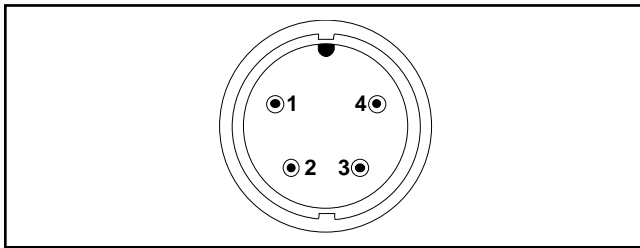

Figure 10. RF Detector Cable Connector Pin Layout
6. Connect the DMM leads between pins 1 and 2 of the RF detector cable connector (Figure 10). Measure the resistance value, which is the maximum resistance of R1 (approximately 40.5 K Ω is typical). Record this value; it will hereafter be referred to as "R_T".